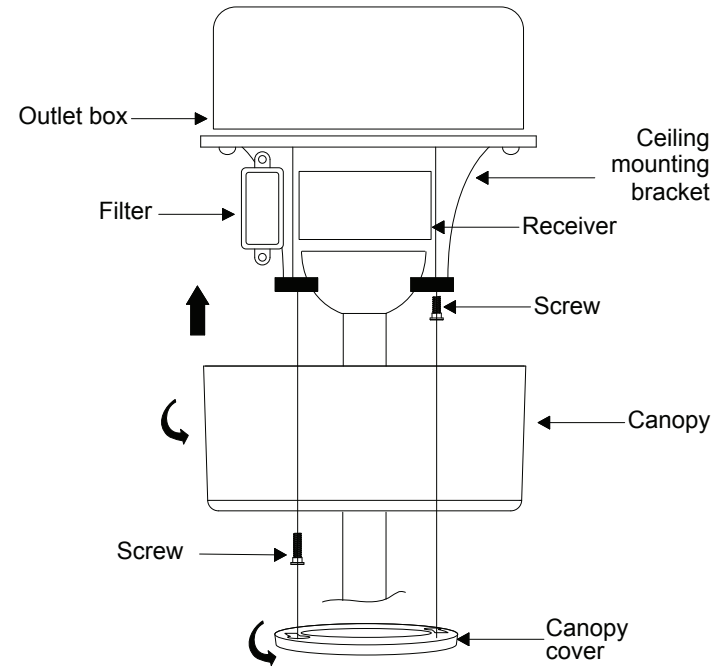

Fig. 15
**Step 2.** Slide the canopy up to the mounting bracket and place one of the key hole slots over the mounting screw on the mounting bracket. Rotate the canopy until the screw head locks in place at the narrow section of the key hole. (Fig.15)